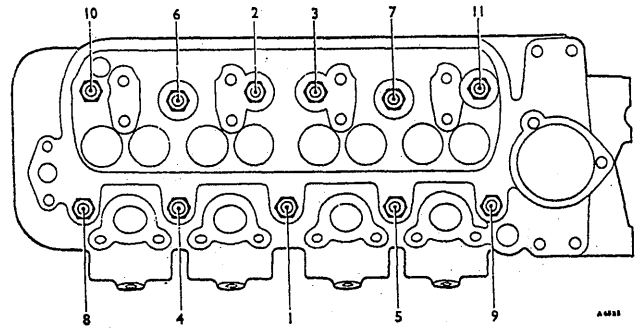

Fig. A.9
- (34) Reverse the procedure in (1) to (19), noting the following points:
- (b) Working in the order shown in Fig. A.9 tighten the cylinder head nuts to the torque figure given in 'GENERAL DATA'.
- (f) Refill the cooling system (Section B.1, (9) to (11) or Section B.6, (6) to (9)).